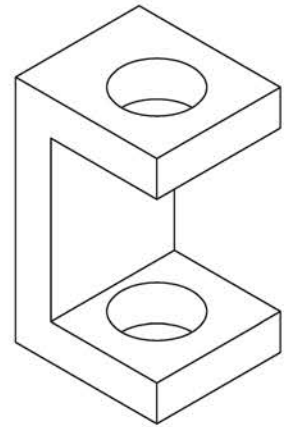

Fig. 8.22 First example – isometric drawing
FIRST EXAMPLE – ISOMETRIC DRAWING (FIG. 8.22)
7. Finally, using **Trim** remove unwanted parts of lines and ellipses to produce Fig. 8.22.